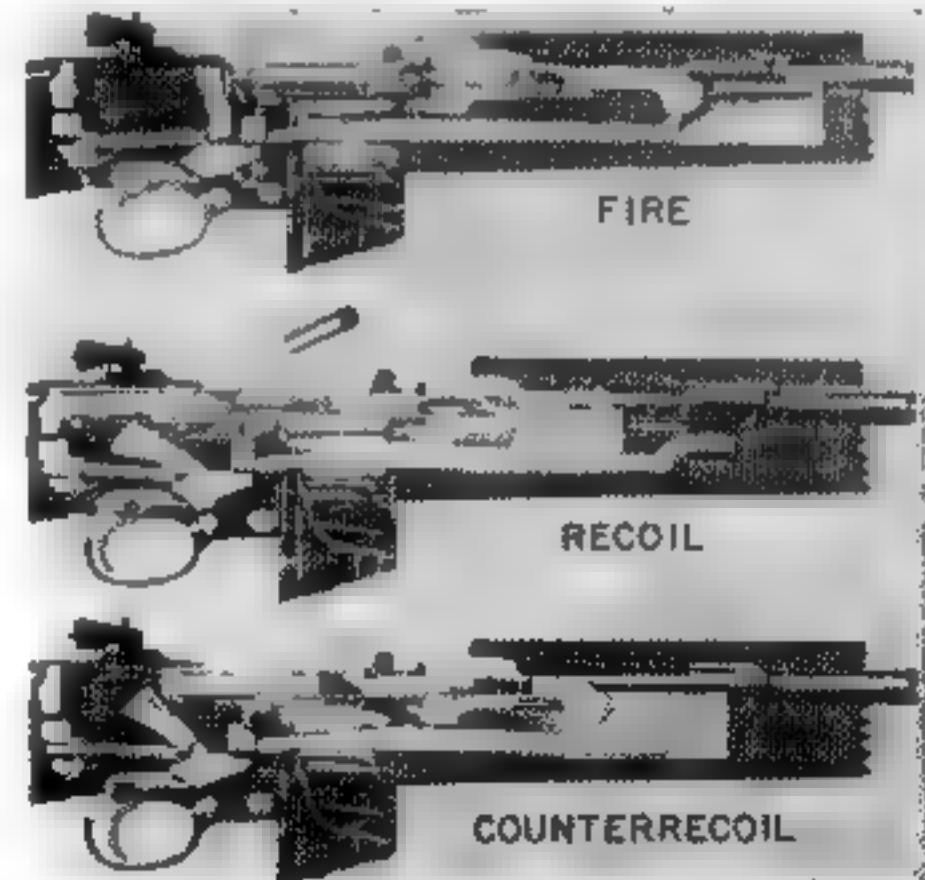

Figure 39. Functioning of operating parts (semiautomatic setting).
a. The action as the operating slide moves forward is the same as on the semi-automatic setting (Page 28) and (Fig. 39), up to the time the camming surface on the operating slide contacts the toe of the disconnector lever. At this point, the operating slide cams down the toe of the disconnector lever. This raises the rear end of the disconnector lever, which is in contact with the disconnector. The forward end of the disconnector is cammed upward. The disconnector rotates about the hammer pin, and the projecting lug on the rear of the disconnector moves downward. With the trigger still held back, the projecting lug of the disconnector presses against the raised shoulder of the sear and the sear nose is disengaged from the hammer. The hammer spring then rotates the hammer forward, and the carbine fires. This happens every time the operating slide moves forward if pressure is maintained on the trigger (see next column).